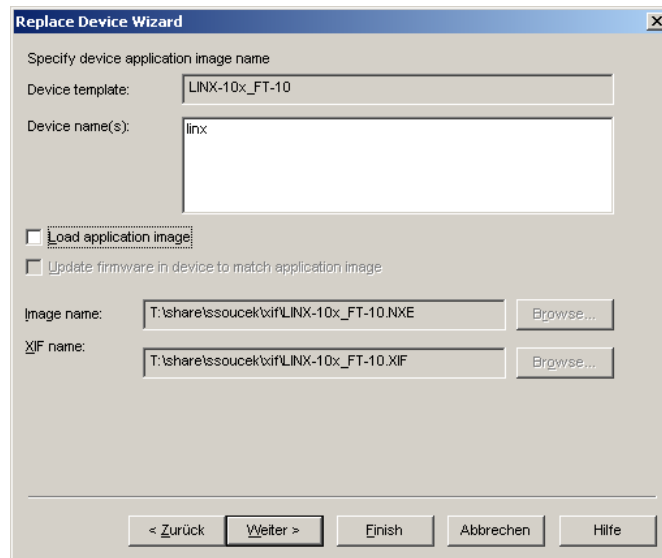

Figure 123: Click Next without loading an application image.
4. In the following window shown in Figure 123 click **Next**.